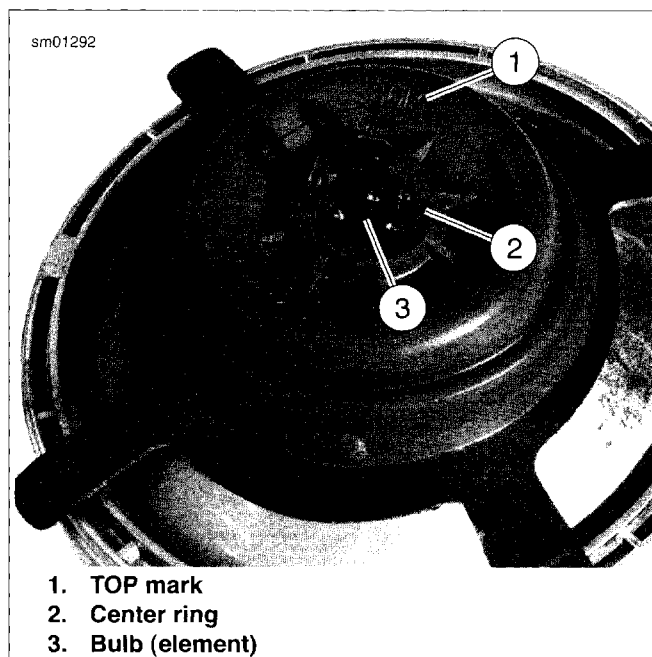

Figure 6-46. Headlamp Boot (TOP Mark)
12. See Figure 6-46. Install rubber boot with word TOP (1) over top notch.
13. Press center ring (2) down flush with base of bulb (3) and press air out of boot to seal bore of boot to bulb and boot flange to rubber finger gasket.